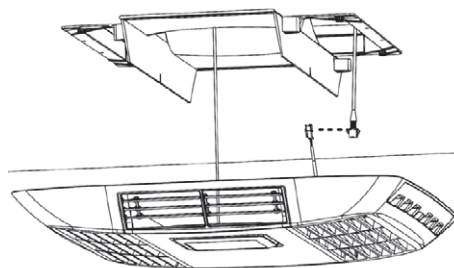

Fig 14: Attaching the suspension cable will allow two hands free to plug in the control cable.
- This will allow you to use two hands to connect the control cable (Fig 14).